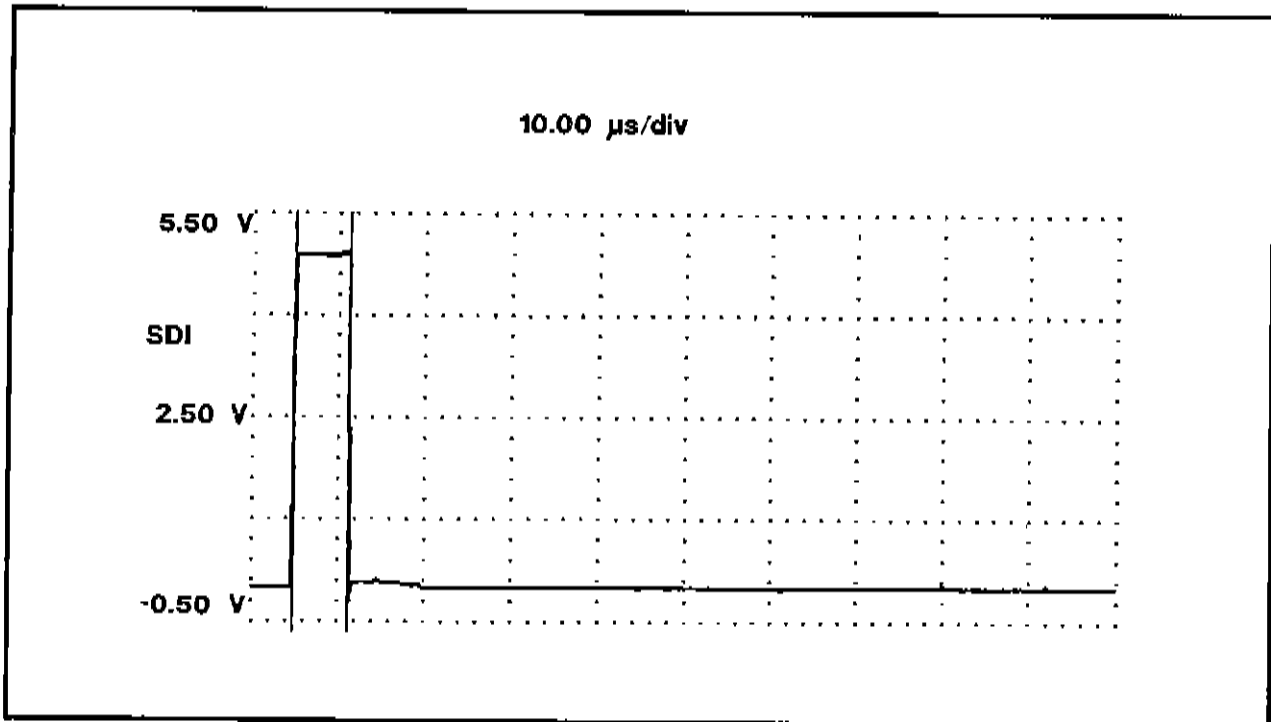

Figure 3-27. TEST 1 or COMMON 1 Scanner PCB SDI Waveform.
- Observe the TEST 1 Scanner PCB SDI on U2-pin 2 (5832) and compare with Figure 3-27 while running the Relay Check utility again. To repeat this test, press R at the menu. If the waveform is different, then troubleshoot input buffer U1-pin 1 (input), and pin 2 (output). If /SDI is absent, then refer to the Digital PCB troubleshooting section pertaining to the scanner interface. If /SDI waveform appears to be loaded down, then it may be necessary to isolate the fault by removing the other Scanner PCBs from the backplane until the fault is found.
18. Observe the COMMON 1 Scanner PCB SDI at U2-pin 2 (5832) and compare with Figure 3-27 while running the Relay Check utility again. To repeat this routine, press R at the menu. If different, then troubleshoot input buffer U1-pin 1 (input) and pin 2 (output). If /SDI is not present, then refer to the Digital PCB troubleshooting section pertaining to the scanner interface. If /SDI waveform appears to be loaded down, then it may be necessary to isolate the fault by removing the other Scanner PCBs from the Backplane PCB until the fault is found.